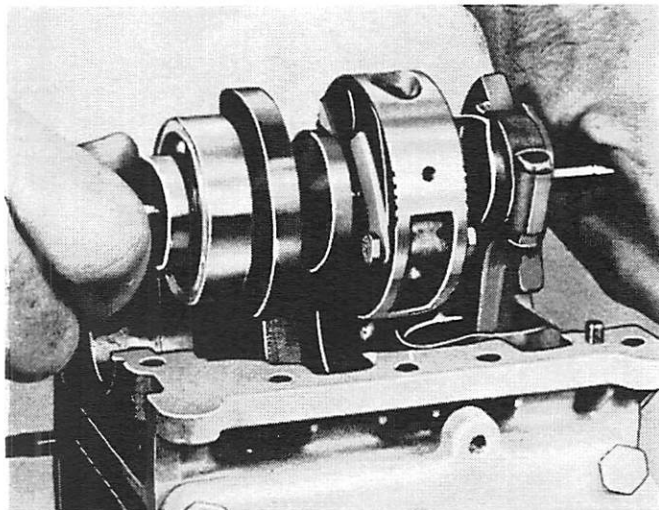

Figure 5. Removing (and Installing) Crankshaft Assembly from Cylinder Block
8. Remove crankshaft, piston and connecting rod assemblies. (Figure 5)